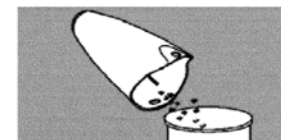

Fig. 7
3. Empty the dust from the dust cup container. (Fig. 7)